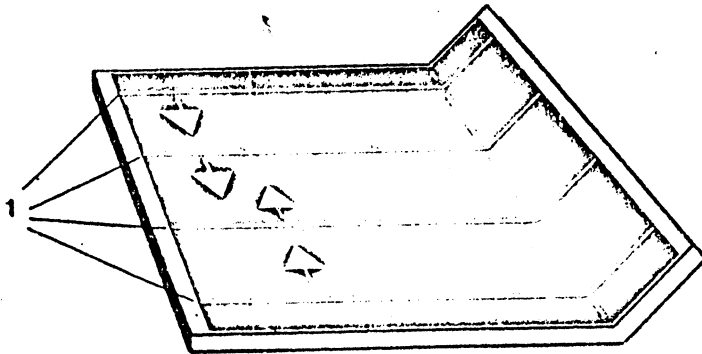

Abb. 12
5. Open the wire bracket of the filter frame (fig. 12/1) and remove the filter pad.